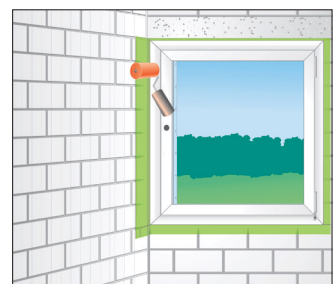

Fig 4
- Consolidate the bond using a seam roller as fig 4.